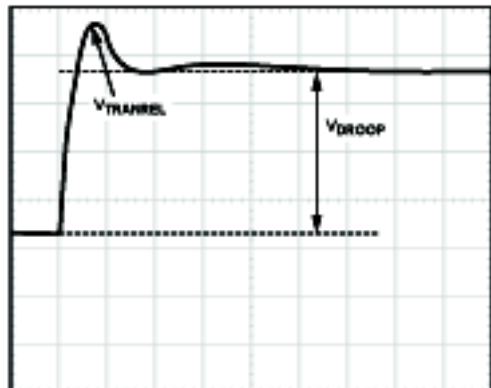

Figure 29. Transient Setting Waveform, Load Release
3. For load release (see Figure 29), if  $V_{TRANREL}$  is larger than the value specified by  $VR11$ , a greater percentage of output capacitance is needed. Either increase the capacitance directly or decrease the inductor values. (If inductors are changed, however, it will be necessary to redesign the circuit using the information from the spreadsheet and to repeat all tuning guide procedures).